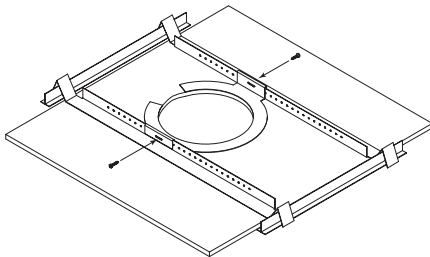

Figure 7: Secure rails to C-Ring
Step 2: Install C-Ring and/or Tile Rails (Figure 7)
For suspended ceiling installations, insert the C-ring through the hole cut in the ceiling tile. Place the C-ring around the hole with the tabs located as shown in Figure 7. Insert the tile rails through the cut hole in the ceiling tile. Snap the two rails into the two tabs in the C-ring and align the rails so that the ends extend OVER the T-channel grid on the side of the tile. Secure the rails onto the C-ring tabs by inserting a screw through each tab into the rail, as shown in Figure 7.